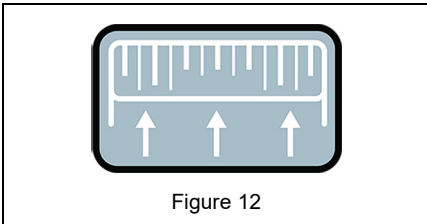

Figure 12
1. Squeeze handle to unlatch and lift hood assembly. See *Battery Access* on page 9. See Figures 12 and 13.